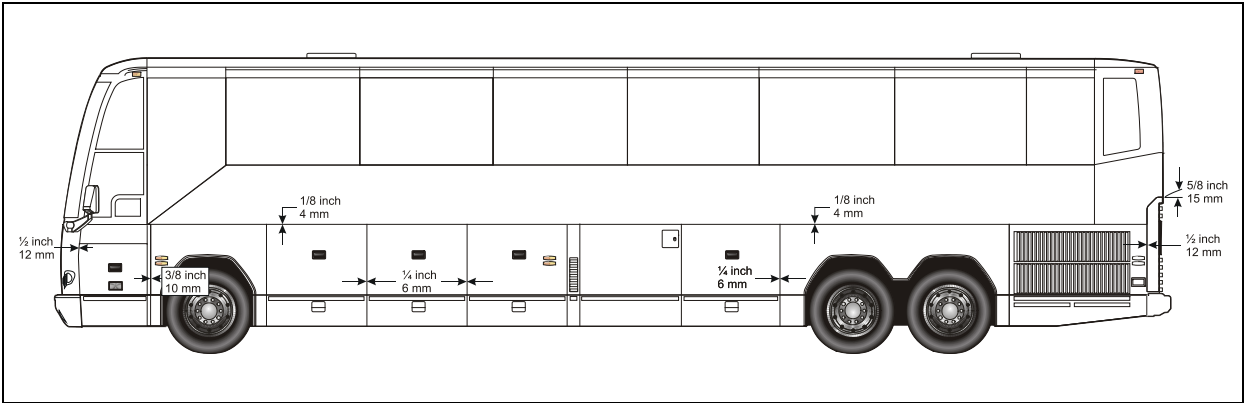

FIGURE 72: BODY PANEL SPACING
4. Carry on with the insertion of the strip into the rubber extrusion groove (Figure 72).